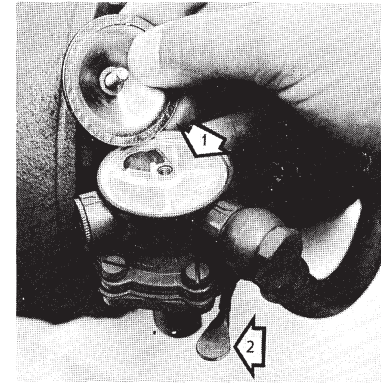

Fig. 21. Feed pump
Wash the outside of the feed pump and remove the cover to get at the gauze filter, see Fig. 21. Clean the gauze filter in fuel oil and re-fit it with the pins pointing upwards. Check the gasket and screw tight the cover. Vent the fuel system (see point 10).
2. Pump forward fuel with the help of the hand primer (2, Fig. 21) until about 0.2 litre (0.4 pint) has run out. Close the vent screw. If the pumping effect is poor, turn over the engine a bit so that the pump driving cam alters position.